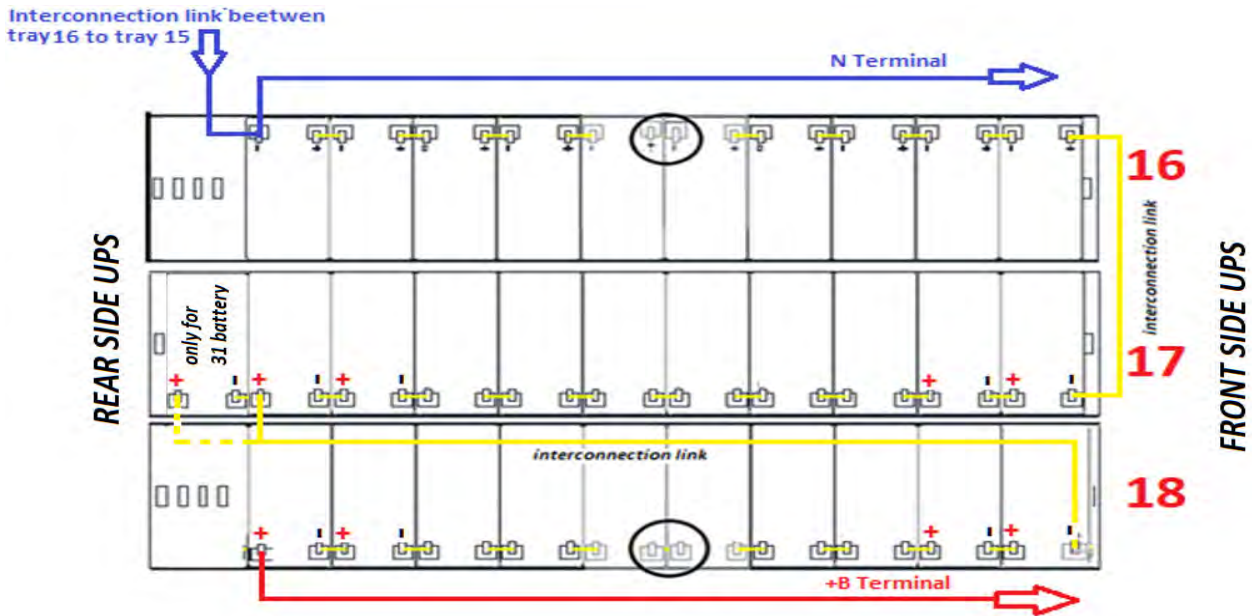

Figure 24 - View from above Level No.6 with battery connections
17) Insert tray no. 18 by removing the circled jumper and inserting the jumpers as demonstrated in Figure 24.